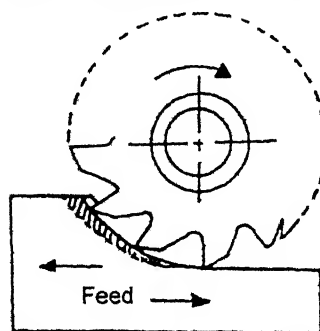

Fig. 10.44. Upmilling process.
- In **upmilling process** (Refer to Fig. 10.44), the workpiece is fed opposite to the cutter's tangential velocity.